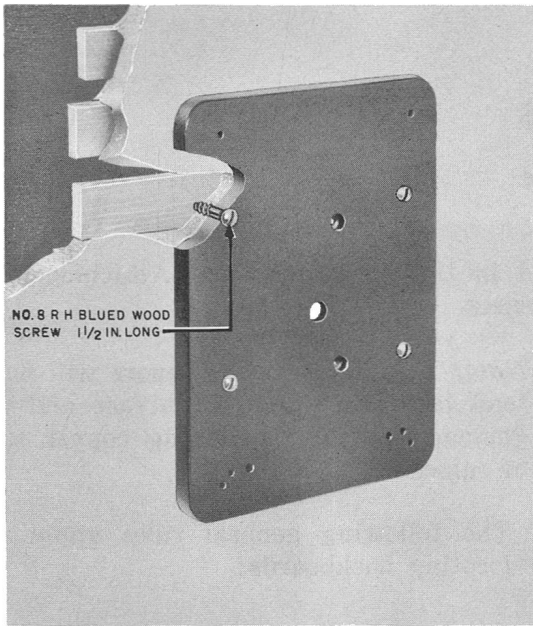

Fig. 1 — 147A Backboard Mounted on Plaster and Lath
2.07 When backboard is mounted on plaster on wood lath, all screws must enter laths or studding. If screws enter the space between laths, move the backboard, provided the screw hole can be covered. Otherwise slant the screws. (See Fig. 1.)